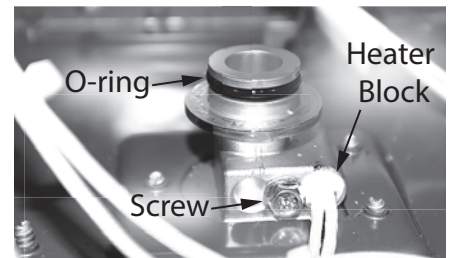

Figure 221 - Heater block location
- 21 Locate the screw securing the heater block in the base of the inlet assembly. See Figure 221. Use a Phillips screwdriver to remove the screw. Place the screw aside in a safe place for reinstallation.
26 Place the new O-ring on the new inlet assembly. See Figure 221.